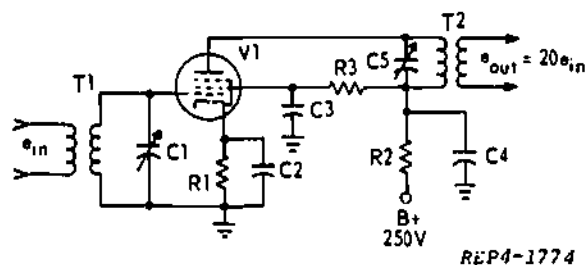

Figure 1
Use figure 1 for, questions 5 through 12.
9. The decoupling components in figure 1 are _____ and _____.